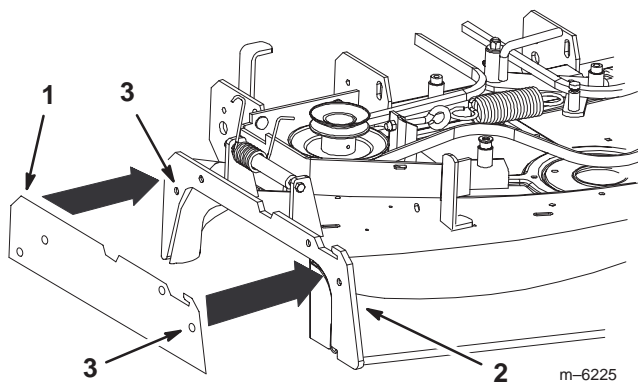

Figure 18
2. Position the template onto the the mounting bracket and align with the **top and sides** of the mounting bracket. (Fig. 18).
3. Clamp the template to the mounting bracket (Fig. 18).
4. Mark and center punch the 4 holes and remove the template (Fig. 18).